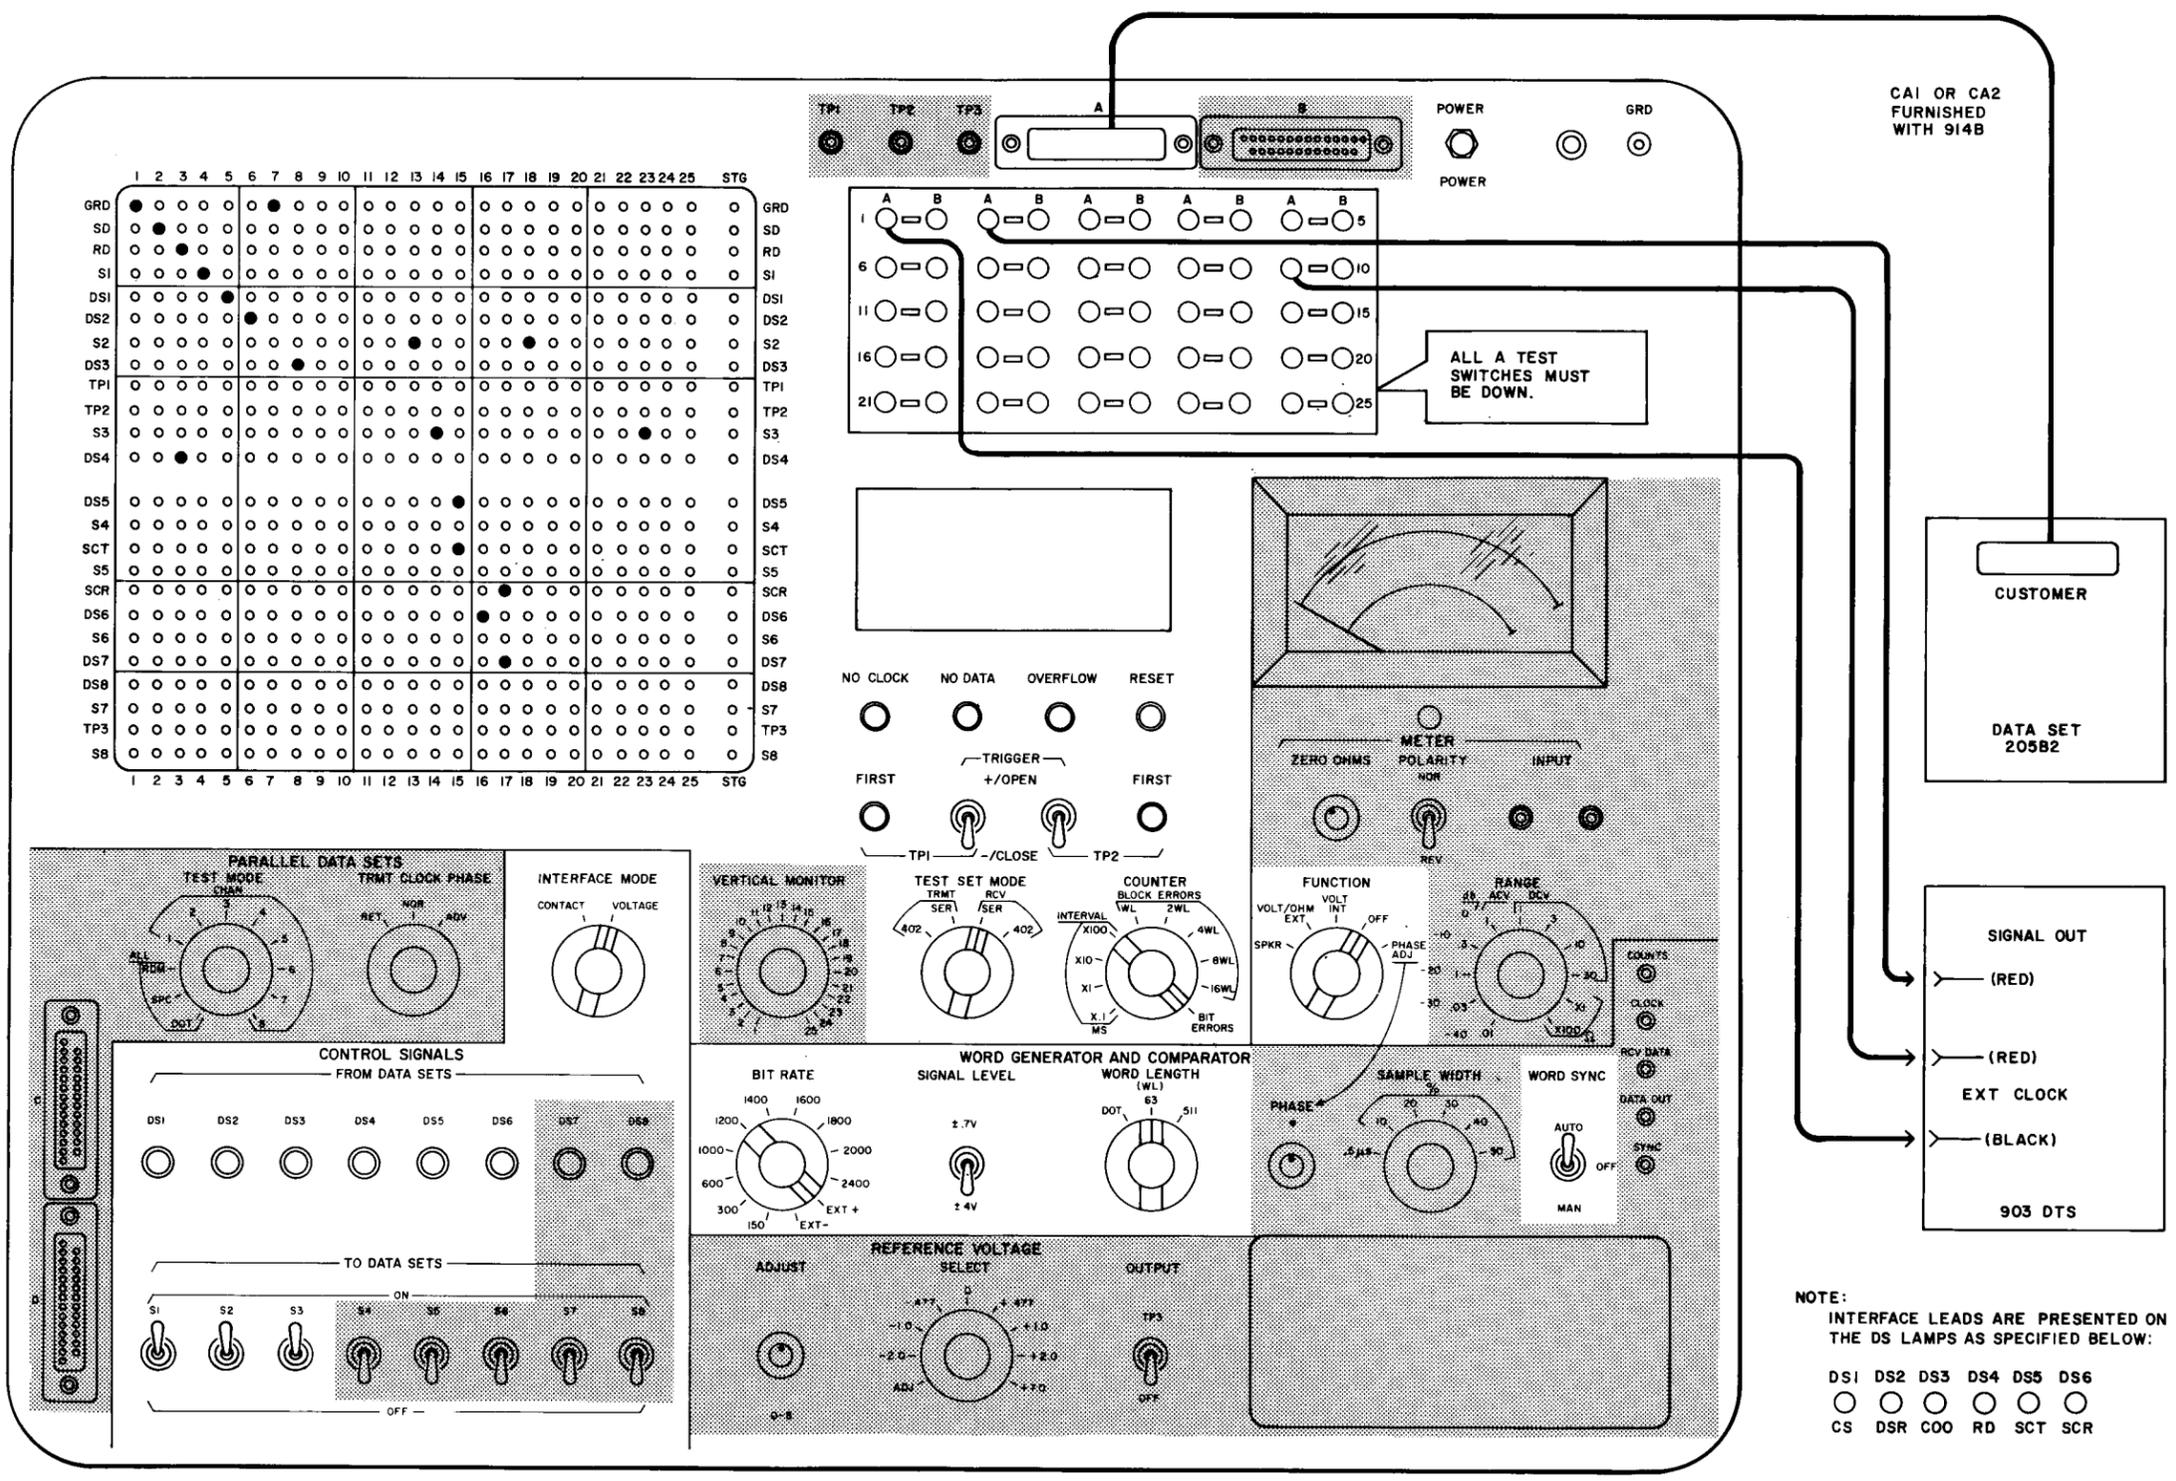

Fig. 4—Back-to-Back Test
- (a) Set up the equipment as shown in Fig. 4.
- (1) BIT RATE to EXT CLOCK
- (2) RANDOM-DOT to RANDOM
- (3) TRIGGER to + (plus)
- (4) POWER switch to ON.
Note: Refer to Fig. 4 for a description of which interface lead is presented on which lamp.